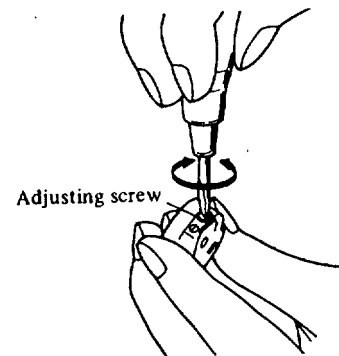

Figure 2-44. Bobbin Thread Tension, Adjustment.
- (2) Bobbin thread tension (Refer to Figure 2-44).